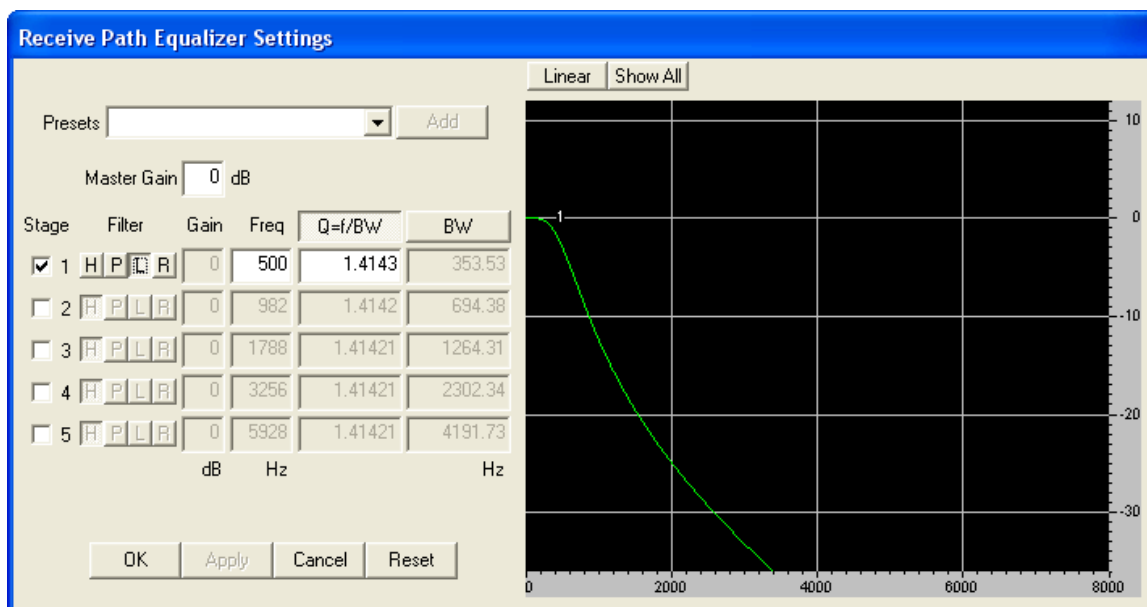

Figure 5-3 Receive Path Equalizer settings window
- Click the **receive-path PEQ** module to open the **Receive Path Equalizer Settings** window and enter the settings shown in Figure 5-3.